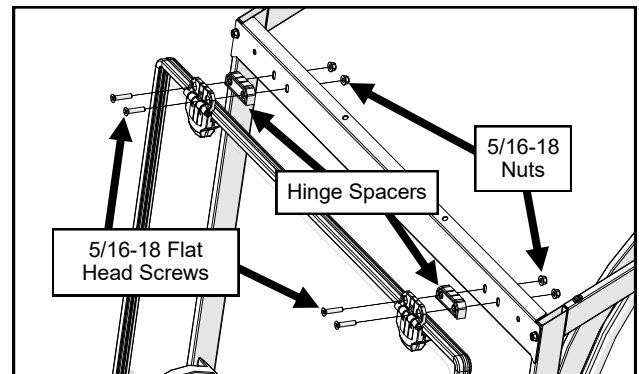

Fig. 13.2 (Attach Windshield)
13.2 With assistance, set the windshield up to the side frames and secure it to the windshield support using the hinge spacers and hardware. See Figure 13.2. Leave hardware loose.